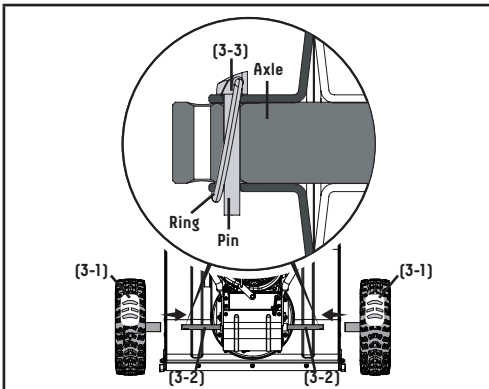

Figure 3
1. Slide the wheel (3-1) onto axle (3-2) as the arrow shows. Tread pattern should face forward. Place axle pin (3-3) into wheel. The axle has a center hole to attach the wheel to the axle (which connects to the drive train). Once inserted, fold ring around axle to hold in place (Fig. 3).